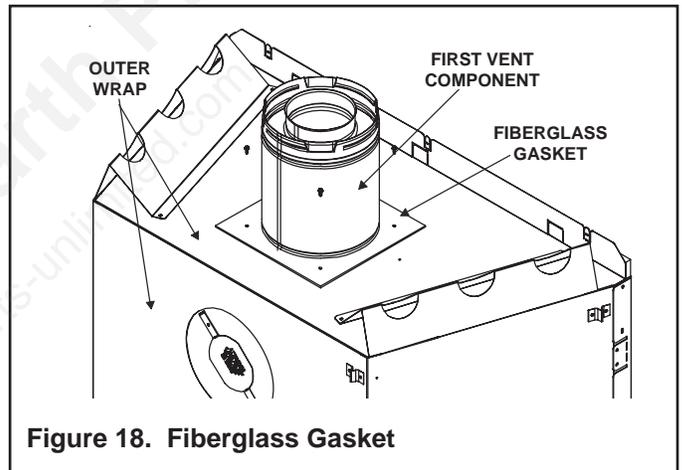

Figure 18. Fiberglass Gasket
WARNING: THE REAR VENT COLLAR SEAL CAP MUST REMAIN ATTACHED TO THE REAR VENT COLLARS IF THE VENT SYSTEM IS ATTACHED TO THE TOP STARTING COLLARS. SEE FIGURE 18.
- Make sure that the fiberglass gasket supplied in the manual bag seals between the first 8 inch (203mm) vent component and the outer fireplace wrap. Using 2 self-tapping screws from the manual bag secure that gasket to the outer wrap (see Figure 18).